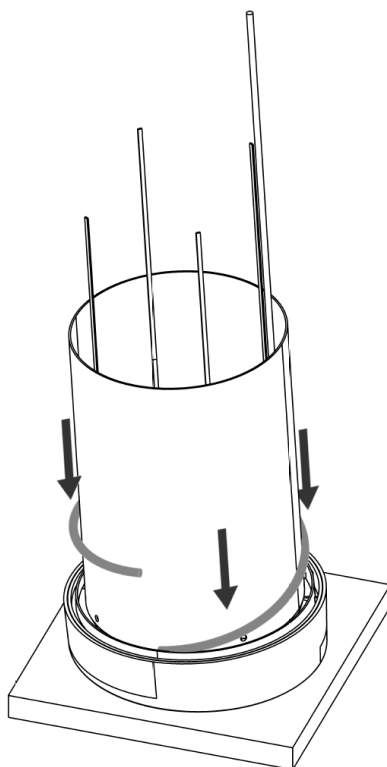

Figure 12 - Sealing band on the outside hood
The outside hood is prepared with the included sealing band (8). The sealing band should be placed on the outside of the Ø250 tube and inserted down into the outside hood, see Figure 12 below.